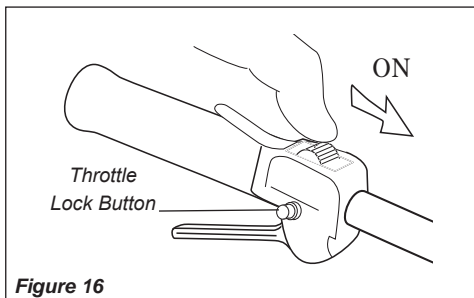

Figure 16
1. Slide the ignition switch to the "ON" position. See Figure 16.
- c. While depressing the throttle lock button, release the throttle lever. See Figure 16.